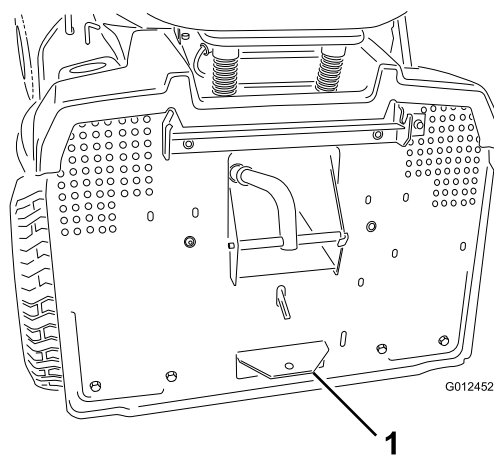

Figure 19
2. Install the attachment to the towing hitch located at the lower rear part of the machine (Figure 19).